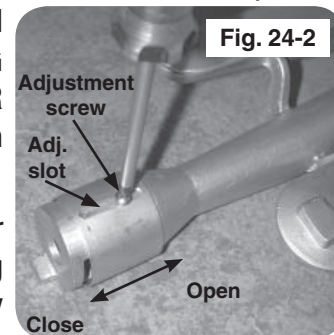

Fig. 24-2
2. Adjust the air shutter opening by loosening the adjustment screw with a screwdriver, then sliding the air shutter backward or forward to open or close the air shutter opening (see Fig. 24-2).